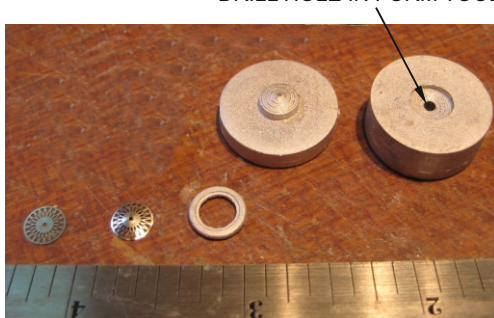

Figure 1
- A Drill a 1/16"/1.5mm diameter hole through the centre of the female form tool as shown in Figure 1 below. This is to let you push the spokes out of the form tool after they have been formed into a cone.